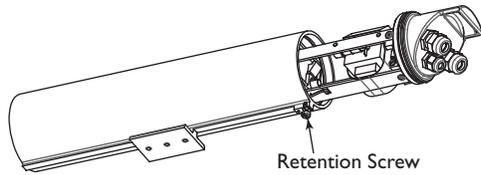

Figure 1 Removing Cradle Assembly
1. Remove the cradle from the housing by lowering the retaining screw completely on the bottom rear of the housing (see **Figure 1**).